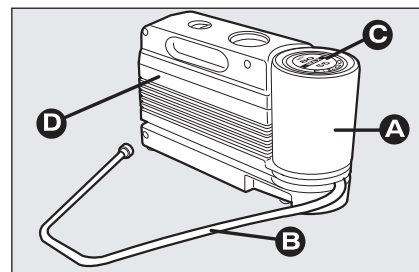

fig. 1
The kit **fig. 1** includes:
- compressor **D-fig. 1** including gauge and connections;